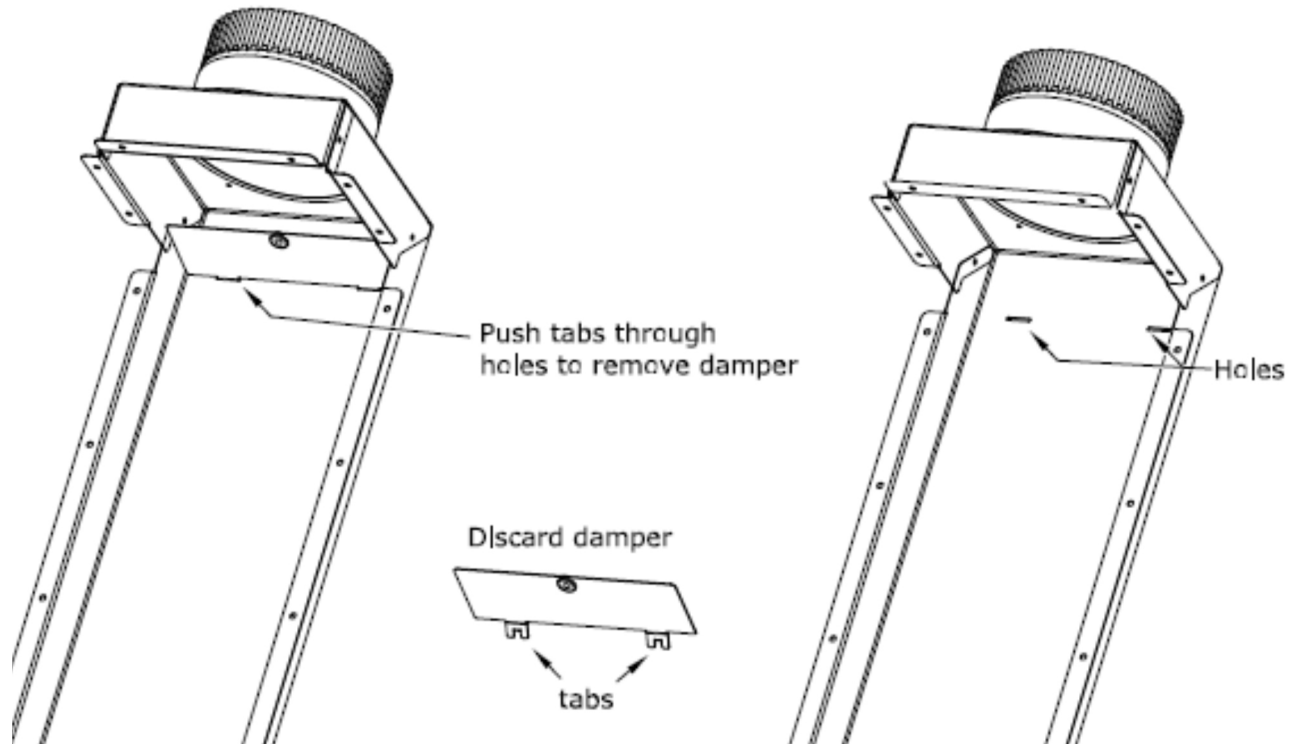

Figure 4.4 - HTK Air Chute Damper Removal for HTK-INT Installations
- **Note:** If you are using the HTK-INT the damper must be removed. See Figure 4.4.